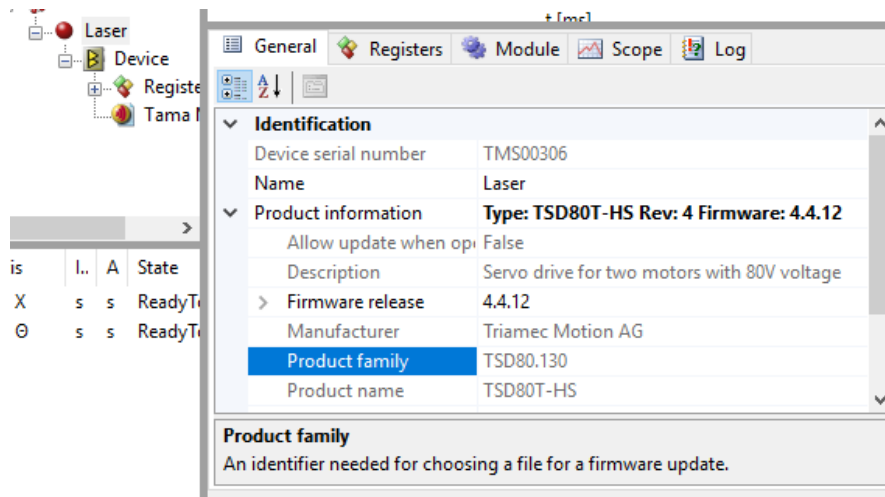

Figure 28: Station Properties.
2. Open the web-page matching the product type of your device (e.g. > **TSD Series**). If the product type of your device is not known, you can identify it by clicking the station of the device in the *Topology Tree*. This opens the property page in the **General** tab as shown in Figure 28. You will find the type of the device under **Product Information**. The property page also shows the currently installed firmware version and the product revision which could also be relevant for the selection of the firmware.